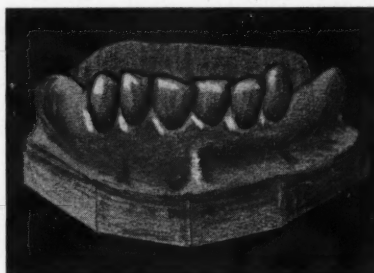

Fig. 2—Stone cast of palatal surface and lingual surfaces of teeth up to incisal edge.
2. The stone model is coated with a separating medium and a stone impression or cast made of the palatal surface and the lingual surfaces of the teeth up to the incisal edge (Fig. 2).